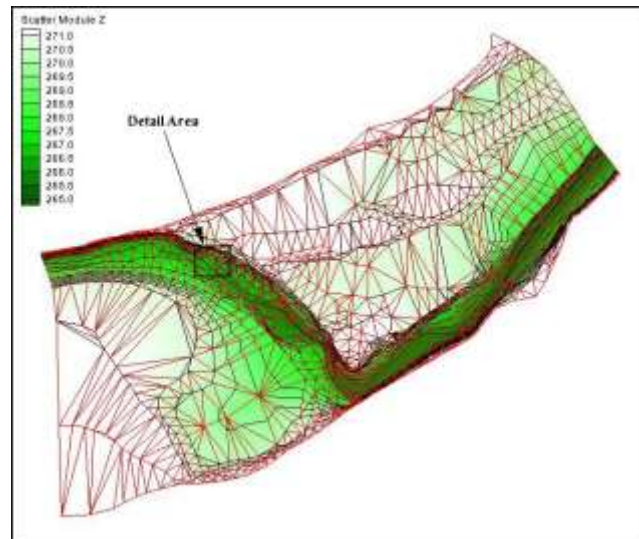

Figure 5 Manual swap detail area
6. With the **Zoom**  tool, zoom to the detail area as shown in Figure 5.